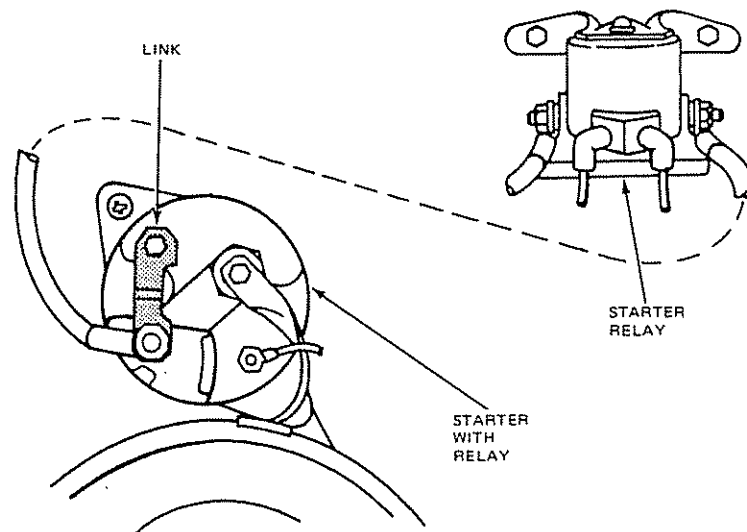

Fig. 2 — Solenoid Connector Link
If the solenoid actuated starter is installed on engines with a starter relay, a special "connector link" is installed on the solenoid (Figure 2). This link connects the battery terminal with the solenoid
1. With the voltmeter negative lead connected to the starter terminal and the positive lead connected to the battery positive terminal (Figure 2, connection (2))...0.5 volt.
2. With the voltmeter negative lead connected to the battery terminal of the starter relay and the positive lead connected to the positive terminal of the battery (Figure 2, connection (2))...0.1 volt.
3. With the voltmeter negative lead connected to the starter terminal of the starter relay and the positive lead connected to the positive terminal of the battery (Figure 2, connection (3))...0.3 volt.
4. With the voltmeter negative lead connected to the negative terminal of the battery and the positive lead connected to the engine ground (Figure 2, connection (4)) ...0.1 volt.